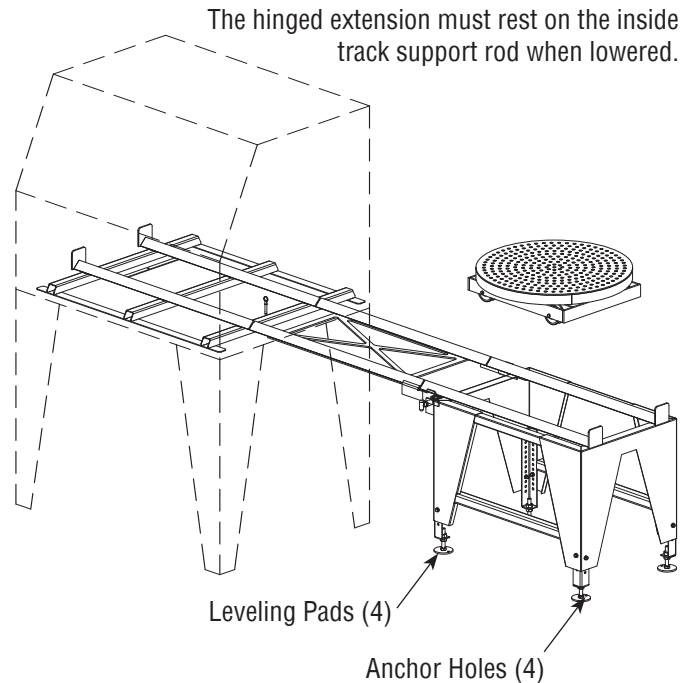

**FIGURE 4**
**2.3.3 |** Position the track support table and extension, as shown in **Figure 4**. When the hinged extension is lowered, the extension tracks must rest on the angled locating supports welded to the bottom of the inside tracks, and it must butt against the inside tracks.